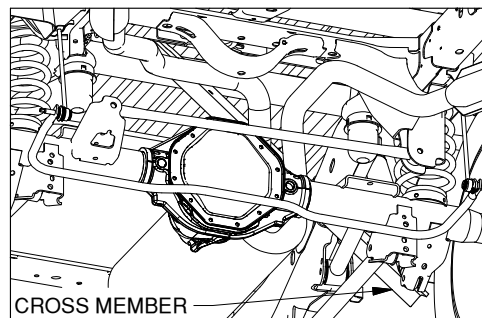

Figure D1: View under bed looking at area above axle.
1. **Position the front cross member.** The front cross member is the 2" x 2-1/2" angle. Install the cross member from the passenger side in front of the rear tire, see Figure D1. Move the cross member so that it spans the frame and sits in an upside down "V" position with the holes toward the rear of the truck. Slide the cross member rearward to the center section.